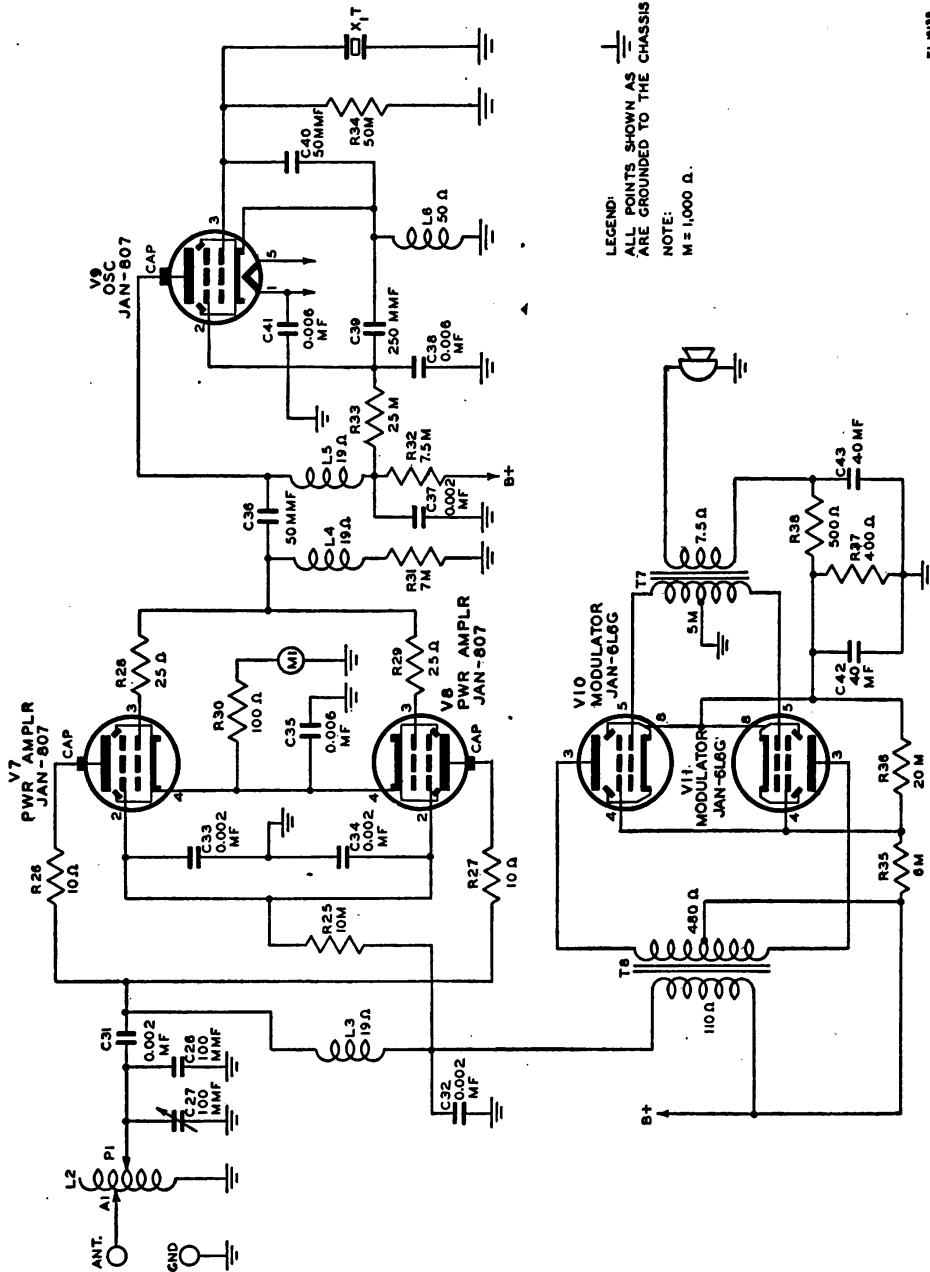

Figure 20. Radio Receiver and Transmitter BC-441-D, simplified transmitter circuit.
Tube JAN-807, V9, is used as a crystal-controlled oscillator with the grid, cathode, and screen grid as the oscillator elements (fig. 20). The desired crystal is selected by one section of CRYSTAL SELECTOR switch S2. Regeneration to produce oscillation is obtained by dividing the voltage by means of C39 and C40. Choke L6 forms a d-c path to ground from the cathode of V9. Grid bias is developed across resistor R34. Filament, screen grid, and plate return are bypassed by capacitors C41, C38, and C37 respectively. Plate voltage is obtained through resistor R32 and is reduced to the proper value for the screen grid by resistor R33. The r-f oscillation is amplified in the plate circuit of V9, and the output signals appear across choke L5.
a. The oscillator output is fed to the grids of Tubes JAN-807, V7 and V8, through coupling capacitor C36 (fig. 20). V7 and V8 are operated as parallel Class C power amplifiers. Bias is obtained partly by cathode resistor R30 and partly by grid resistor R31. Choke L4 reduces the loading effect of R31 on the oscillator. Plate resistors R26 and R27 and grid resistors R28 and R29 suppress parasitic oscillations in the power amplifier. The cathodes are bypassed at radio frequencies by capacitor C35, the screen grids by capacitors C33 and C34, and the modulated plate supply by capacitor C32. Screen voltage comes from the modulated plate supply through resistor R25, and plate voltage through the parallel-
The modulator consists of Tubes JAN-6L6G, V10 and V11, as a push-pull Class AB power amplifier (fig. 20). Audio signals from the handset microphone are fed to the grids of V10 and V11 through transformer T7.